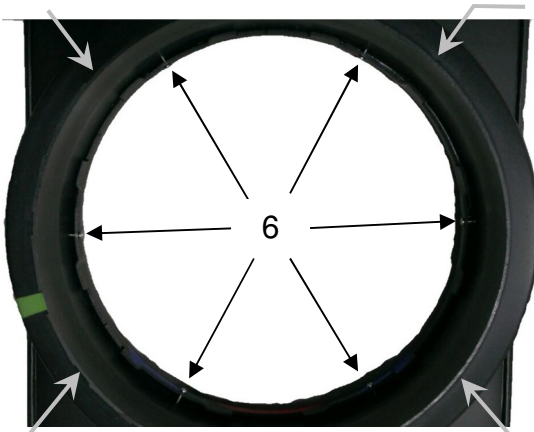
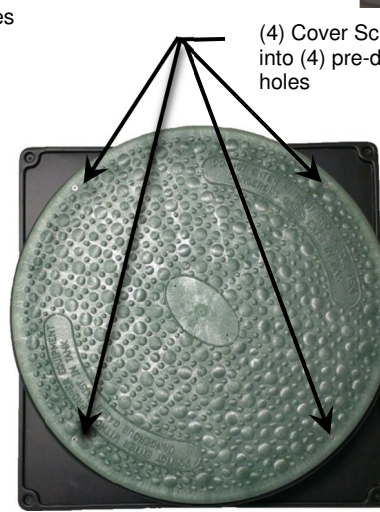

Figure 5
Figure 10
- 3.) With the (4) pre-drilled holes upward (Fig. 5) & (Fig. 10), center the riser pipe on the adapter flange so the gap is even all of the way around. Do not apply downward pressure while adjusting the gap. When the even gap is achieved, lightly lower the riser pipe onto the butyl rope. As required, make final adjustment and apply firm downward pressure to seat the riser pipe into the butyl rope. Apply the pressure all around the riser pipe every 30 degrees.
- 4.) Locate the six (6) mounting holes on the inside perimeter of the adapter flange. Install six (6) screws to attach the riser pipe to the adapter flange. Drive the screws with the screw tilted upward following the pre-drilled hole until the head slightly compresses the adapter flange (Fig 3.). When properly tightened there will be approximately a 1/4" gap between the riser flange and the riser pipe (Fig. 4). All six screws must be visible when complete (Fig. 5).
- 6.) Locate the six mounting slots on the safety barrier (Fig. 6). Insert the safety barrier into the riser ensuring the six mounting slots align with the 6 screws (Fig 5), (Fig. 6) & (Fig. 7).
- 14.) Fasten the base plate to the tank using four (4) enclosed blue screws.
- 16.) ***Always re-install (4) cover security screws and tighten with appropriate driver tool to secure Riser Cover to Riser Pipe (Fig.10) & (Fig. 11)***